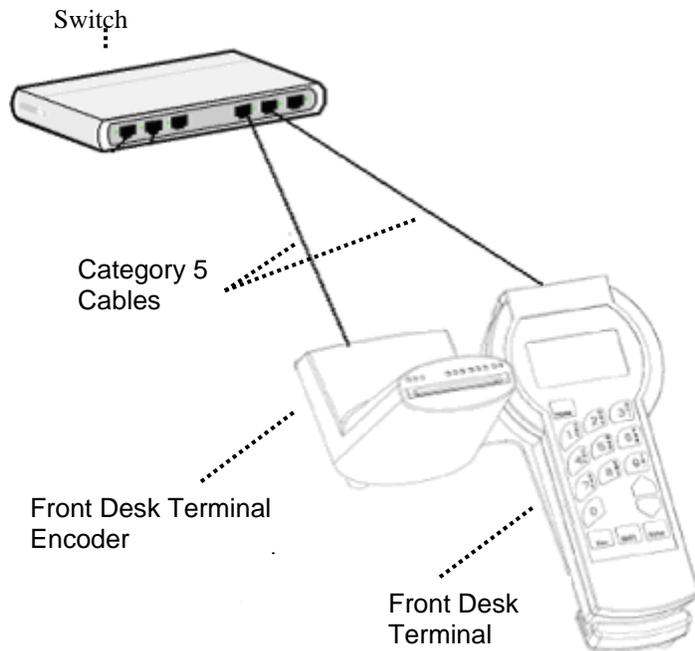

Figure-2
Step 1. Connect the front desk station's terminal and encoder to the switch as illustrated in Figure-2 below.